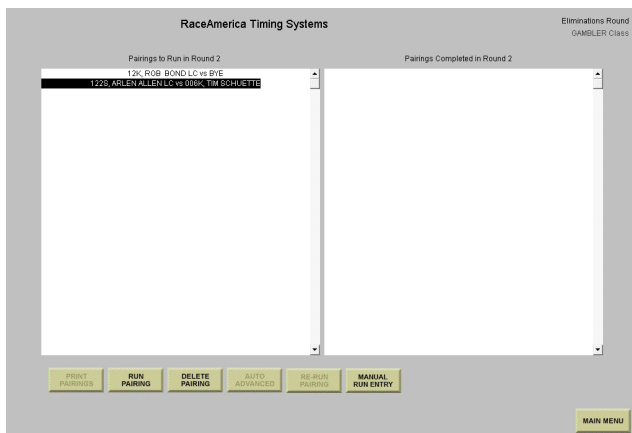

Figure 16a - Race Ladder Pairings Screen
Clicking on the RACE LADDERS button on the Main Menu, then selecting a class will load driver's names for that class and automatically generate drivers pairings using the ladder size and seeding method selected on the EDIT CLASSES screen. If the class contains 64 or less entries, the size of the ladder is adjusted to match the size of the race field. Driver pairings are then displayed as shown in Figure 16a. Lane Choice is indicated by (LC) next to the driver's name.